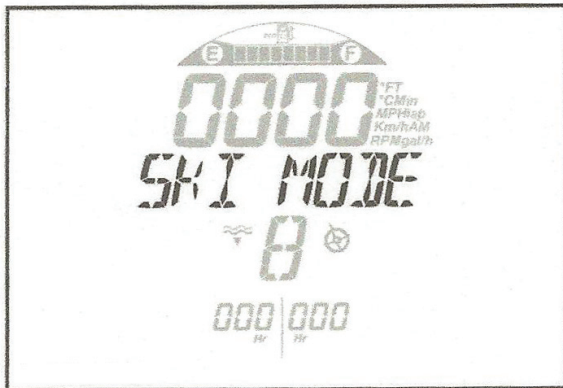

Figure D10: SKI MODE Displayed
- a. To activate the SKI MODE (if equipped), press MODE button until SKI MODE is displayed. See Figure D10.